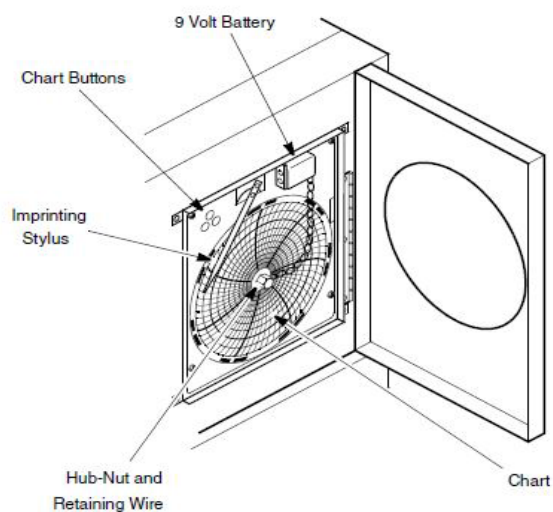

Figure 4. Six Inch Chart Recorder
3. Unscrew the center nut, remove the old chart paper, and install new chart paper. Carefully align the day and time with the reference mark on the recorder panel (a small groove on the left side of the panel, shown in *Figure 4*).